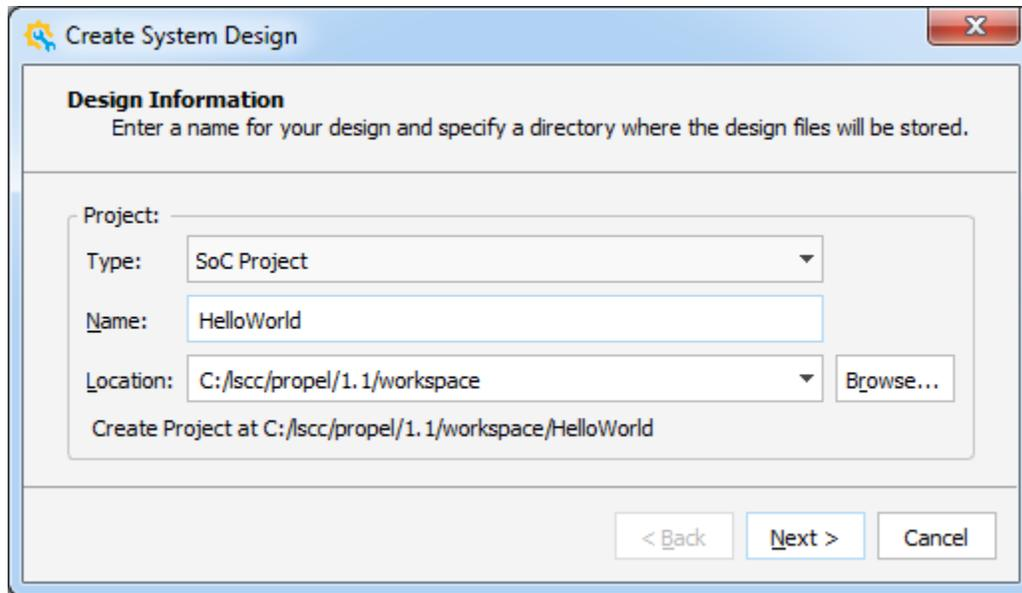

Figure 2.8. Create System Design – Design Information Wizard
1. Choose **File** >  **New Design** from the Lattice Propel Builder Menu bar. The Create System Design wizard opens (Figure 2.8).